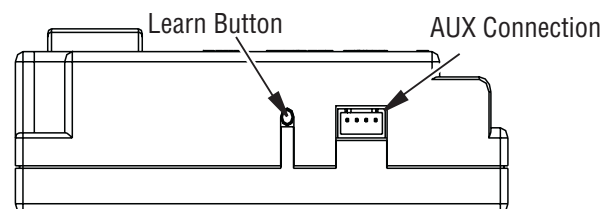

Figure 27 - Gas Module Left Side
1. There is a switch located on the right side of the module that reads REMOTE/OFF (Figure 27).
- To program the module (make sure the system has power), locate the learn button on left side as shown in **Figure 27, Page 15**. Press and release the learn button. There will be a beep sound from the module. Then press any button on the remote transmitter. Once the module's internal receiver accepts the transmitter code, there will be a series of confirming beeps.